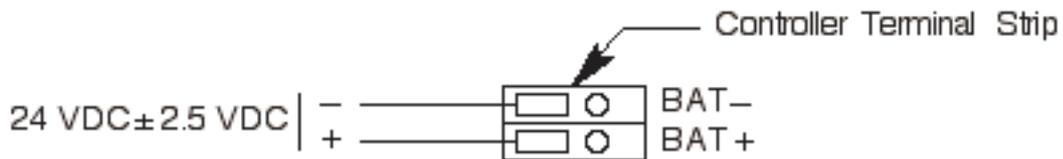

Figure 7. DC Power Wiring
5. Connect the DC wires to the controller terminal strip as shown in Figure 7